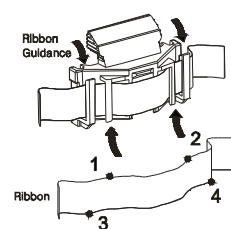

Figure 3
3. The printer might already have a ribbon guidance installed. If that's the case and if the cartridge is not equipped with, remove the one installed in front of the print head by pulling it upward, and attaching it to the ribbon as follows: Insert the ribbon as shown in figure 3.